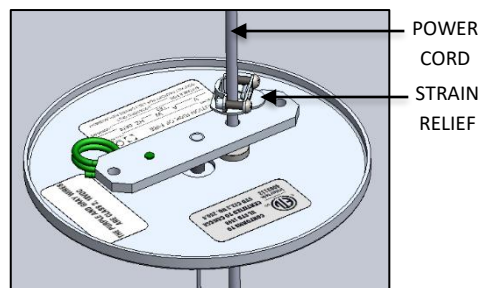

FIG. 45 – STRAIN RELIEF INSTALLATION
37. Install STRAIN RELIEF, ensuring flat side of STRAIN RELIEF rests on MOUNTING BRACKET and tighten screws all the way as shown below in FIG. 45 & 46.